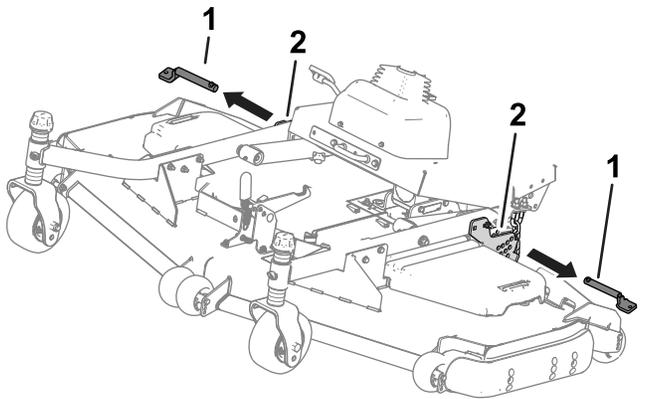

Figure 39
4. Remove the pins from the height-of-cut plates (Figure 39).